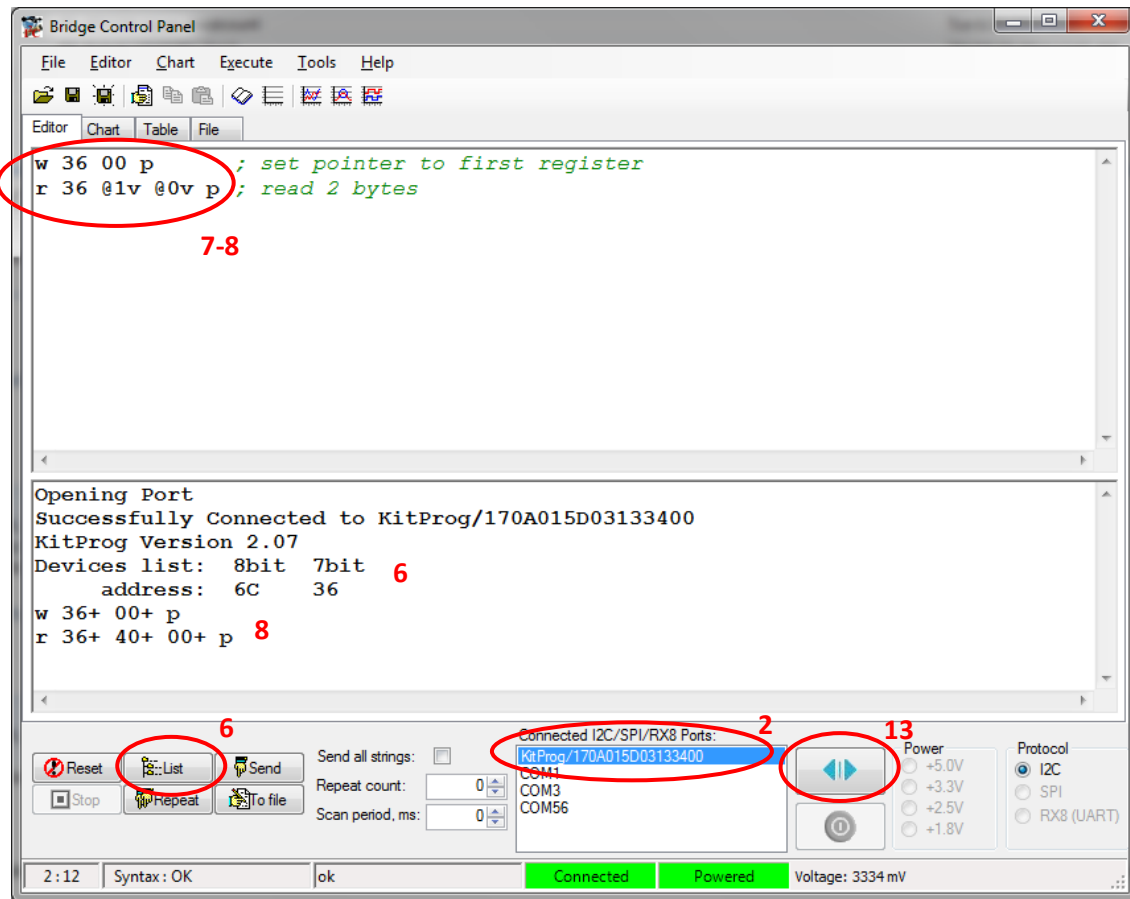

Figure 3: Bridge Control Panel Main Window
2. Connect to the KitProg in the Bridge Control Panel and make sure the device is powered (Figure 3).
6. Click the "List" button and verify that a device with 7-bit address 36 shows up (Figure 3).
7. Enter the write and read commands as shown below (use Ctrl-Enter to add a new line) (Figure 3).
8. Execute the write command and then the read command (to execute a command, click on the line containing the command and press Enter). The read command will read the ADC value for your project (Figure 3).
13. Note: you must disconnect from the bridge in order to re-program the PSoC (Figure 3).